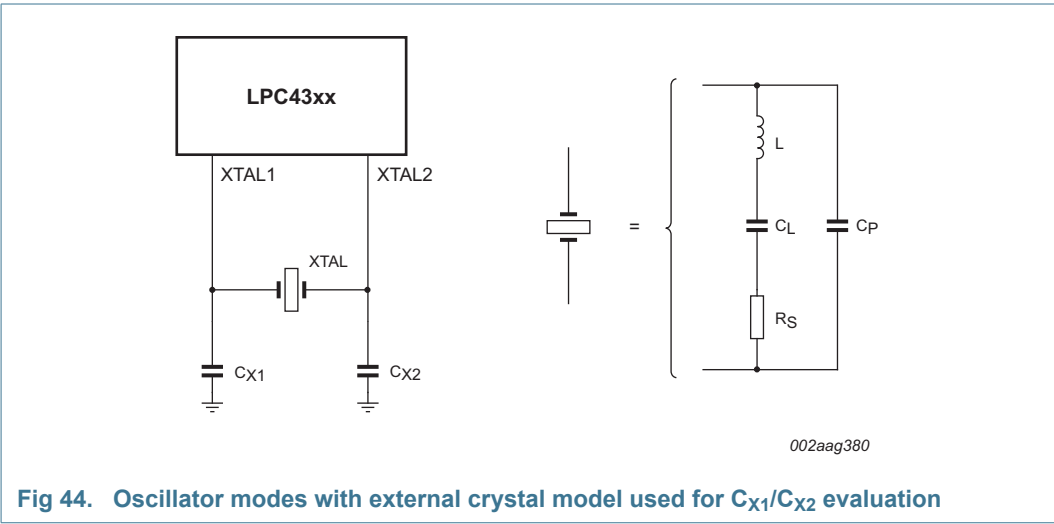

Fig 44. Oscillator modes with external crystal model used for C_{X1}/C_{X2} evaluation
- External components and models used in oscillation mode are shown in Figure 44, and in Table 41 and Table 42. Since the feedback resistance is integrated on chip, only a crystal and the capacitances CX1 and CX2 need to be connected externally in case of fundamental mode oscillation L, CL and RS represent the fundamental frequency). The capacitance C_P in Figure 44 represents the parallel package capacitance and must not be larger than 7 pF. Parameters FC, CL, RS and CP are supplied by the crystal manufacturer.